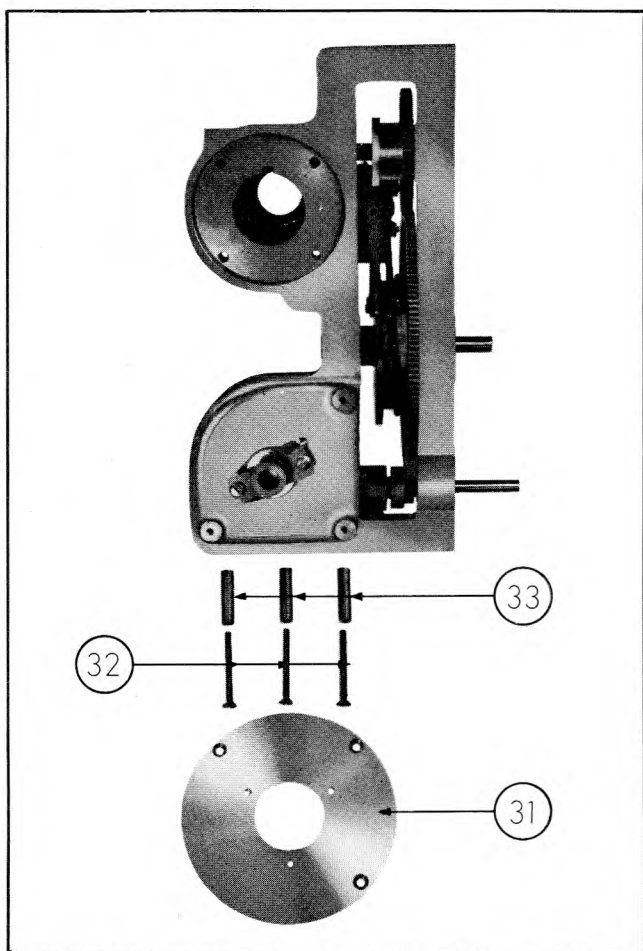
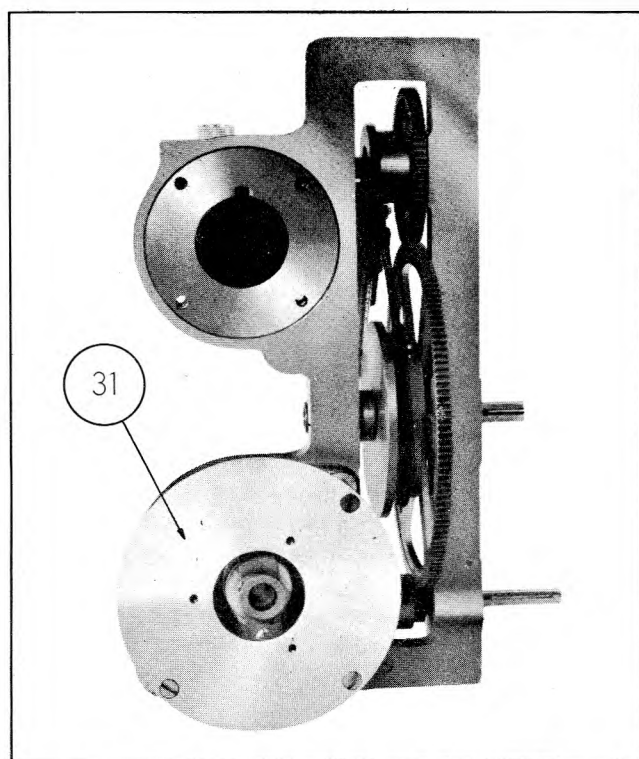

Figure 4-23. Parts Comprising Mounting Bracket for Potentiometer R-173
Figure 4-24. Bracket for Potentiometer R-173 in Place
Figure 4-23 shows the repeller potentiometer mounting bracket (31) with the 6-32 x 1 1/2 inch machine screws (32) and 1-1/16 inch long spacers (33) which mount it to the casting. The parts should be assembled and mounted to the casting as shown in figure 4-24. It is desirable to cement the mounting screws with glyptol or some similar cement.